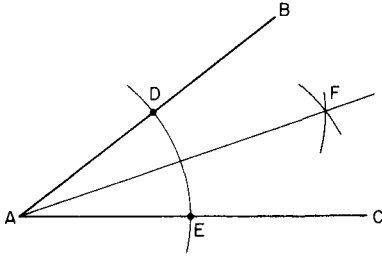

Fig. 3.5
- (1) Draw line AB.
- (2) Construct a perpendicular at A and at 90° to AB by either of the two methods indicated previously.
- (3) Bisect the 90° angle as shown in Fig. 3.5.
- (4) This produces the required 45° angle.
- (2) Bisect this angle as shown in Fig. 3.5.
- (3) This produces the required 30° angle.